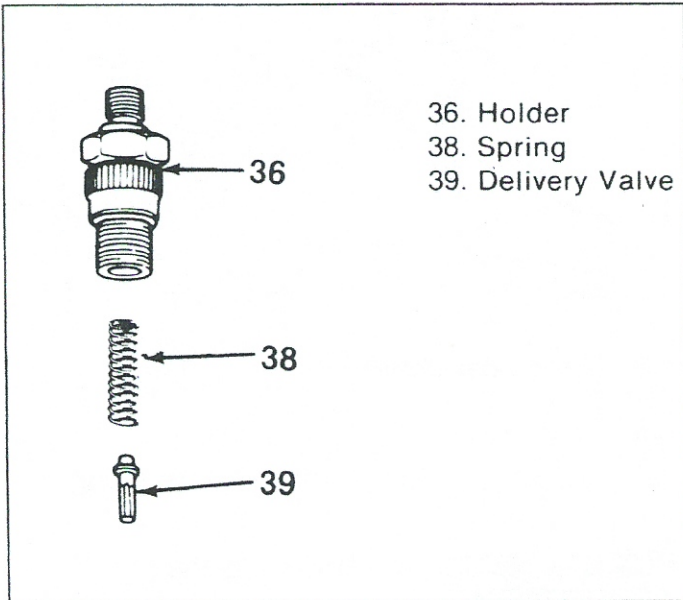

Figure 23. Delivery Valve Components
6. Remove the delivery valve holder, spring and the delivery valve (figure 23).